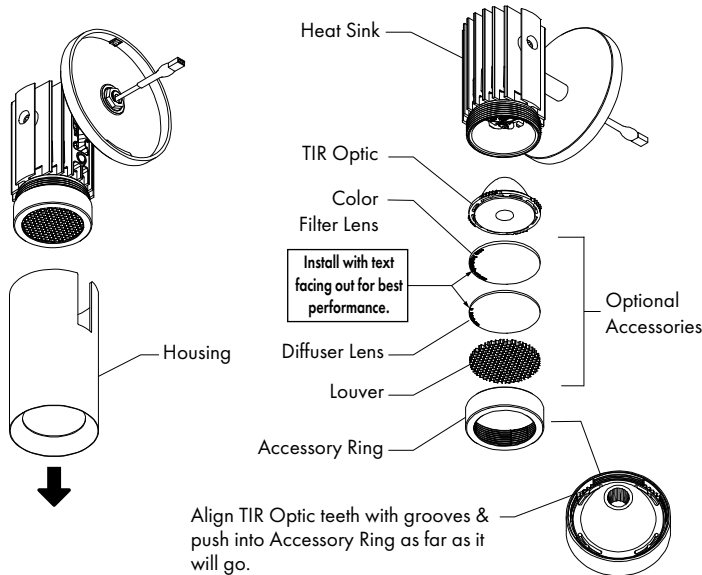

FIG 1.2 Lens Assembly & Accessories
Step 4 (Adjustment) Remove Housing from Heat Sink as shown & remove Accessory Ring to remove or install accessories. Loosen set screws slightly (DO NOT remove) with Hex Keys provided to adjust head tilt or rotation as shown. Lock position by tightening set screws - **FIG 1.2 & 1.3**